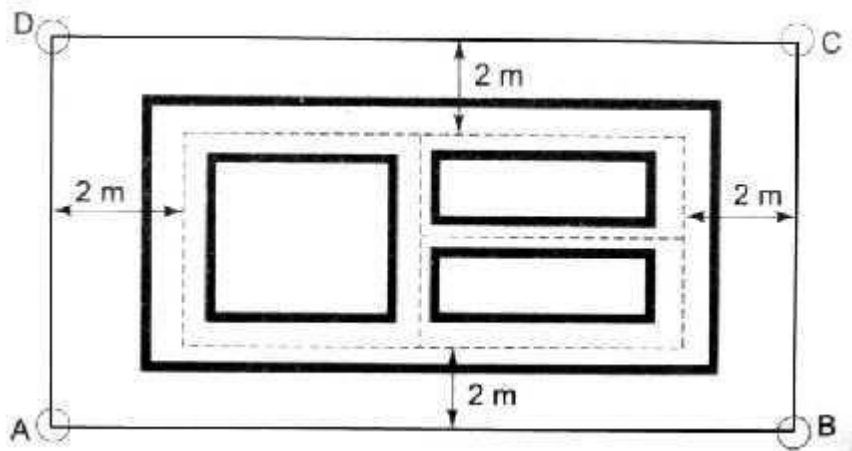

Fig.30 Setting-out Structures by Using a Circumscribing Rectangle
3. Then using these pegs as reference, a parallel line, say AB as shown in Fig.30 of required length is set out at an arbitrarily selected distance (say 2m) from the actual center line.